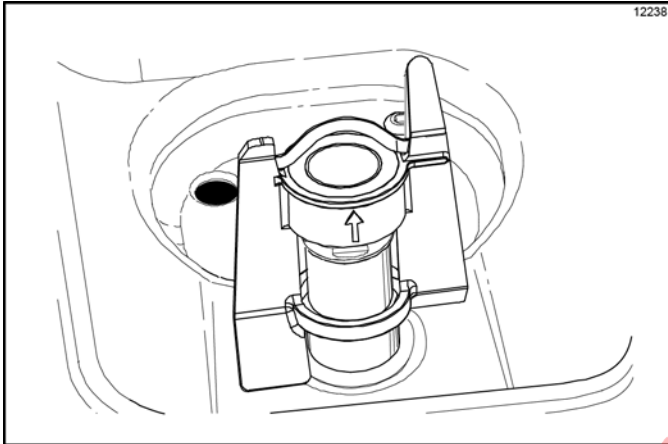

Figure 6-69
**Important!** Fill the mix hopper with mix up to the fill level indicator on the agitator paddle. (See Figure 6-69.)